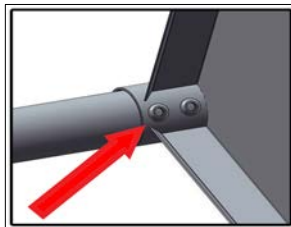

Fig 2
3. Use set screws to loosely attach the under shelf to the legs, approx. 7 inches from floor. [Fig.2]